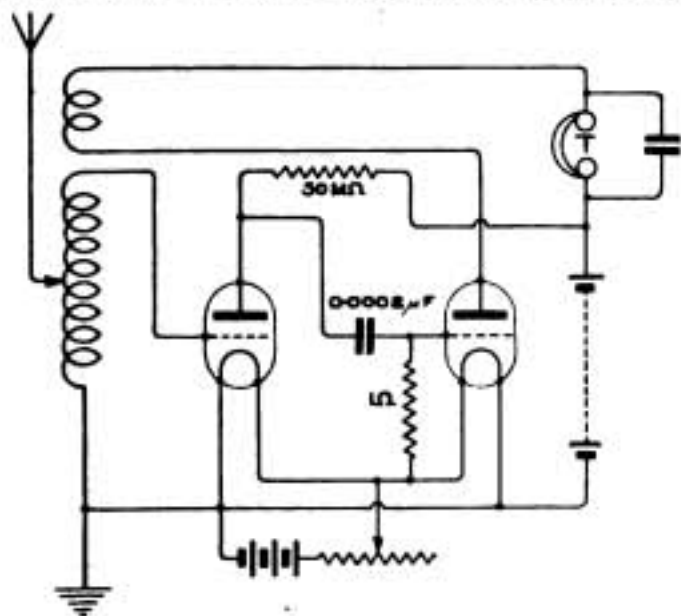

Fig. 1.
(1) See diagram Fig. 1. (2) Doubtful, but possible. (3) Yes; a reaction coil is made in exactly the same way as any other coil. (4) The dimensions given for the coil do not appear to be self-consistent. Assuming the number of turns is correct as stated, the inductance would be approximately 300 mhys.
(1) See Fig. 1, page 435, July 1st issue. (2) The necessary material consists of:—One coil holder, to carry three valves; set of slab, or honey-comb coils; H.F. transformer; two valve sockets; three variable condensers, 0.0005 mfd.; one condenser, 0.002 mfd.; one grid leak; one L.F. inter-valve transformer; one filament resistance; one L.T. battery; one H.T. battery; one pair telephones.
"RADIO MANIAC" (Wimbledon).—(1) 5,000 metres with condenser, 4,500 without it. (2) Yes, provided that the wavelength of the closed circuit is also brought up. (3) Yes, if the dielectric between the plates is not more than 1/4,000" thick, preferably mica. (4) See Fig. 1, page 90, April 15th issue, and others.